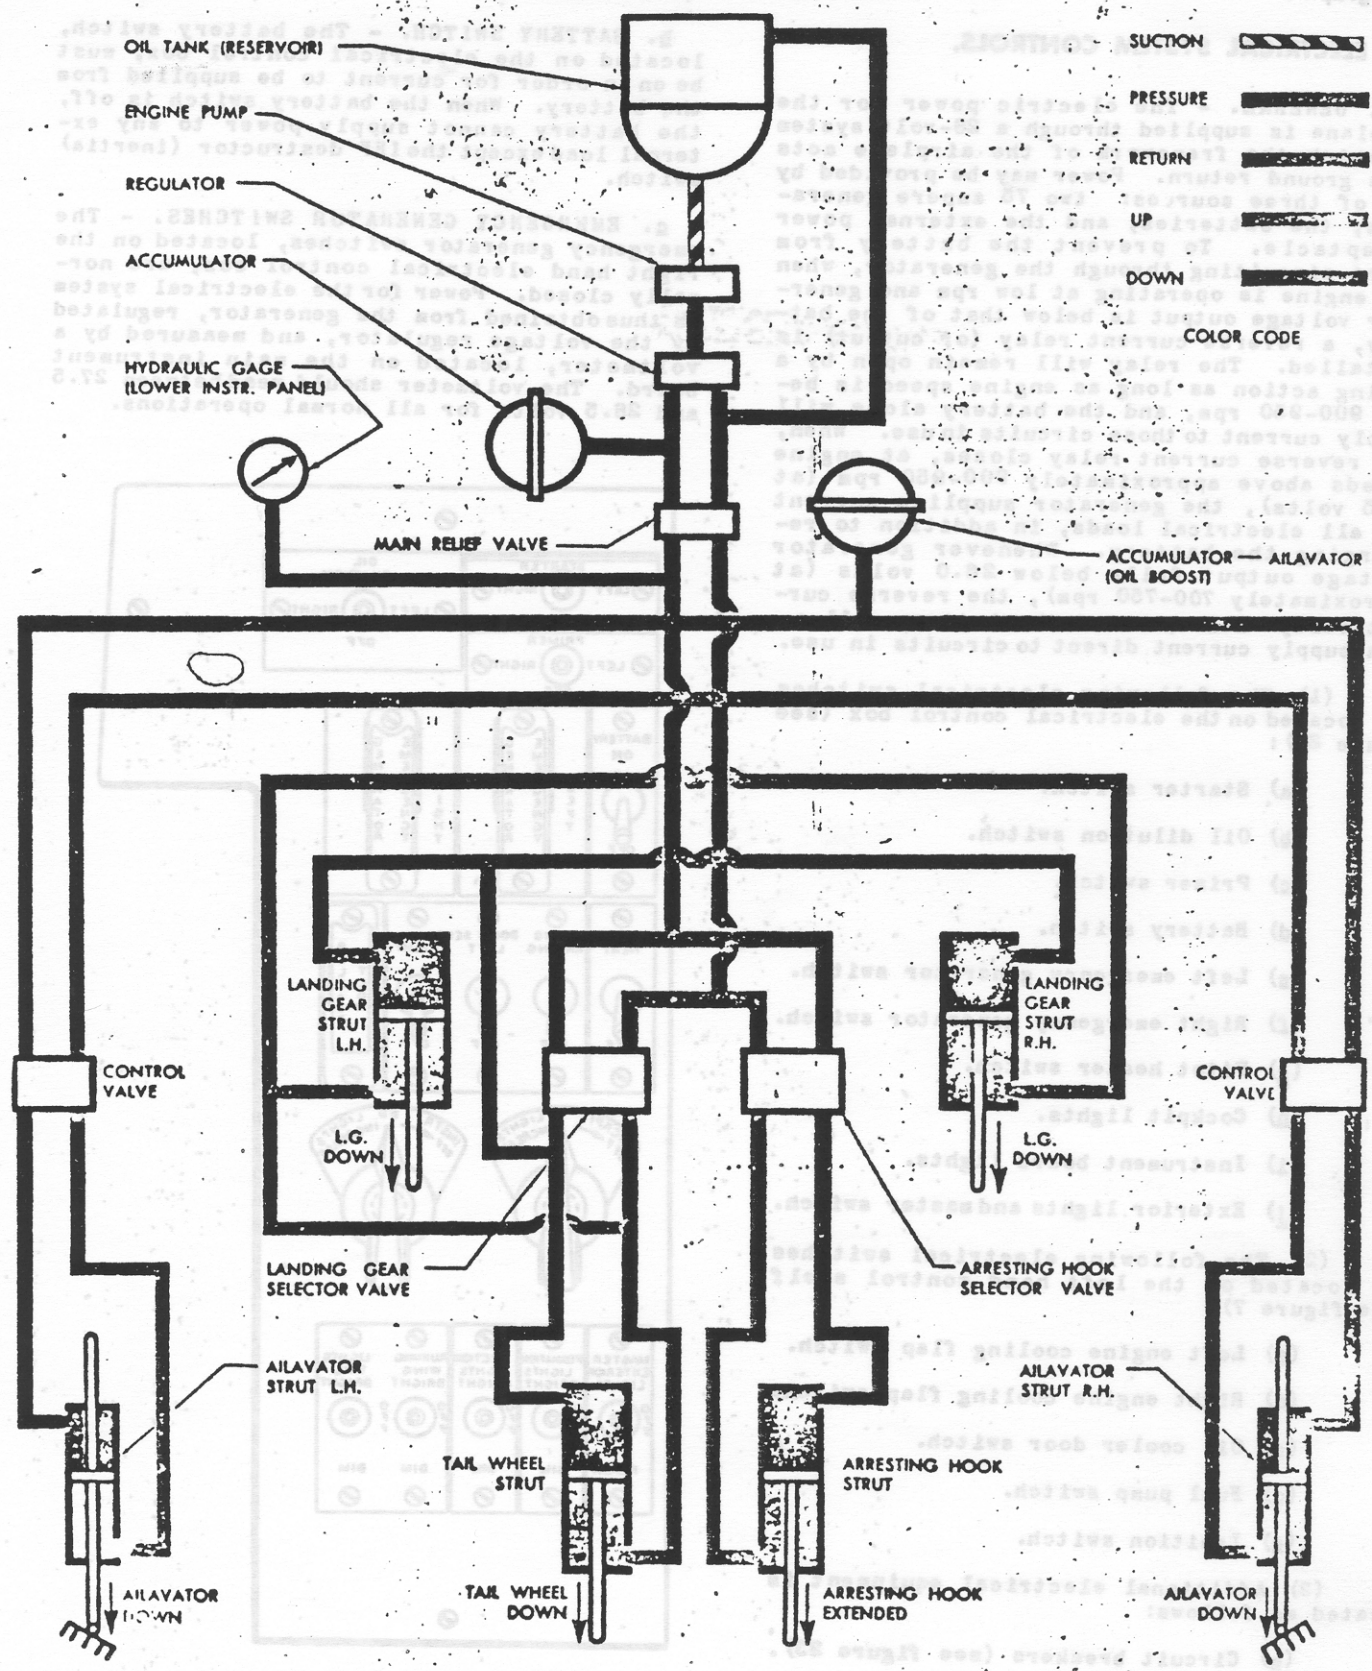

Figure 21 — Simplified Schematic Hydraulic Diagram
a. GENERAL. - The landing gear and arresting hook are hydraulically controlled. (Refer to Section I, paragraph 7 for description of the hydraulic system and to figure 21.)